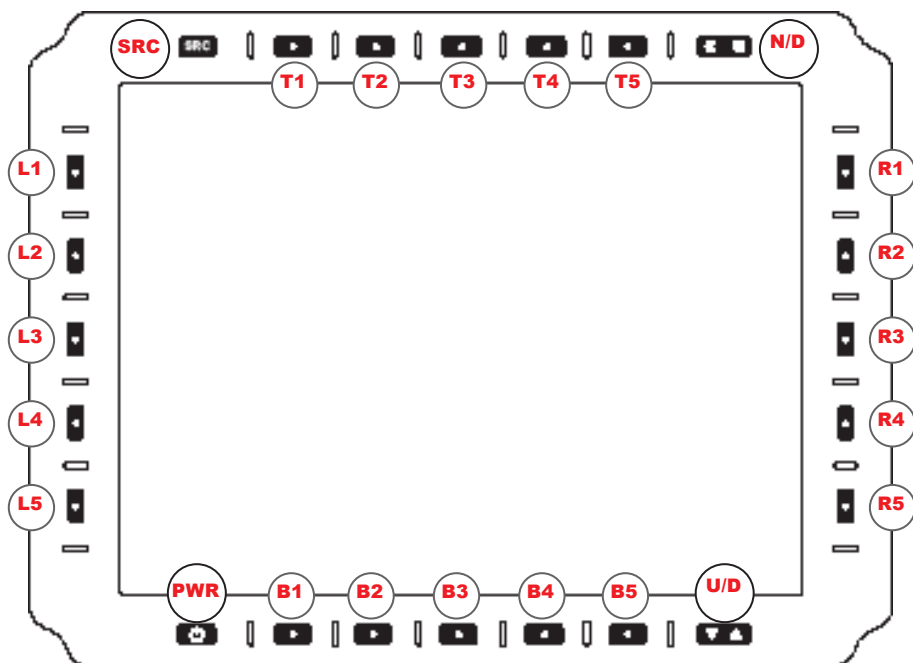

Figure 17. SECURE ERASE MENU
Suggested use of the submenu Secure Erase (SE) function (Figure 17) is any event requiring User to leave no Video or Snapshot data behind. Secure Erase reformats the Media drive.